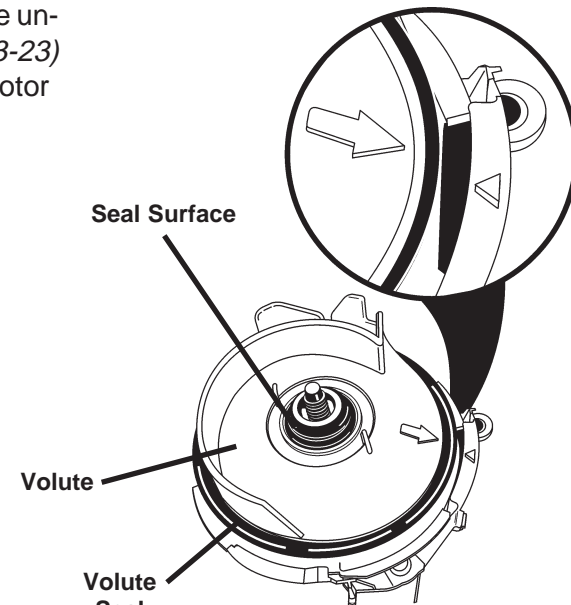

Fig. 3-24
3. Pull the motor straight back from the sump assembly. Some effort may be necessary to dislodge the motor. The volute will remain attached to the motor. (See Figure 3-24, page 22)
NOTE: When reinstalling the wash motor and volute, do not pinch the volute seal between the volute and sump. Use a small amount of rinse aid on the volute seal to help installation. (Fig. 3-24, page 22)
1. Align the arrow on the volute and the locator triangle on the wash motor frame as in Figure 3-24.